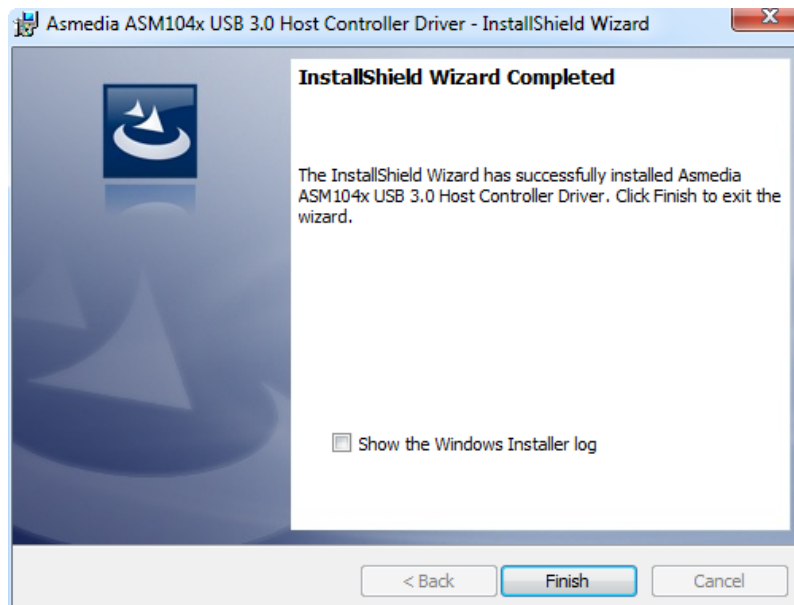

Figure 8-30: USB 3.0 Driver Update Complete
Step 10: When the installation is complete, click **Finish** to exit setup. (Figure 8-30).